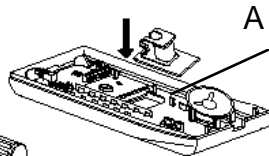

Fig. 3
- 2) Fit the buzzer in its housing on the loudspeaker by pressing it down until it is correctly inserted (Fig. 3).